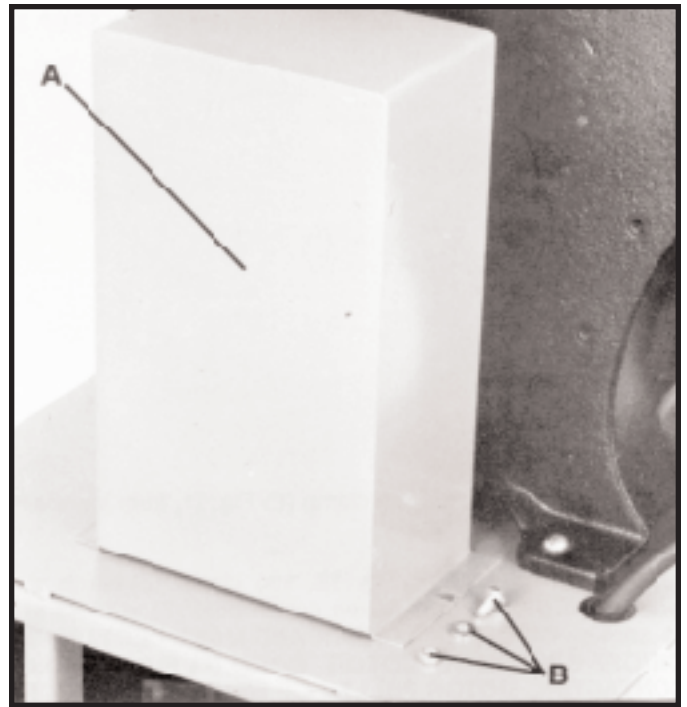

Fig. 17
Assemble belt and pulley guard (A) Fig. 17, to the top of the stand and surrounding the driven pulley with two 3/4-20 x 5/8 hex head screws, flat washers and hex nuts (B).